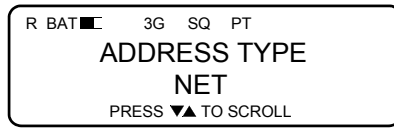

Figure 3-25. Net Address Screen
- c. Use ▲▼ keys to select address type **NET** and press [ENT]. See Figure 3-25.